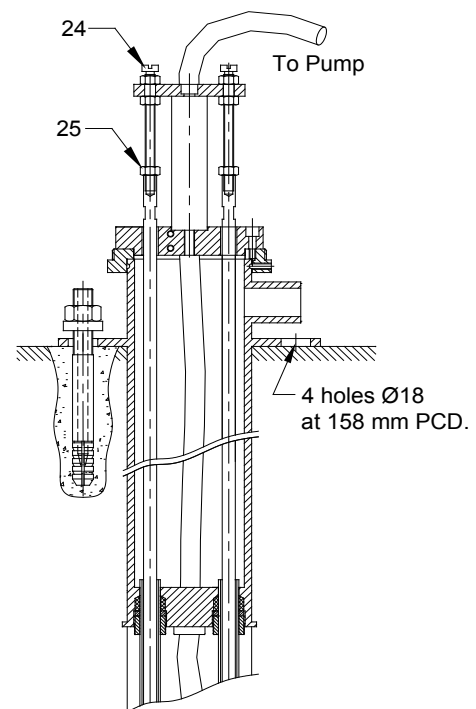

Figure 3.3 – Setting arrangement for 6pt BHE
3.3.21 Insert sensor (20) in flanged housing (5) taking care that the cable is carefully routed out to be eventually connected to the junction box (23). Secure sensor to guide plate (7) with grub screws (8) ensuring that tube face (refer to figure 3.3) is around 10 mm extended from face of guide plate (7).